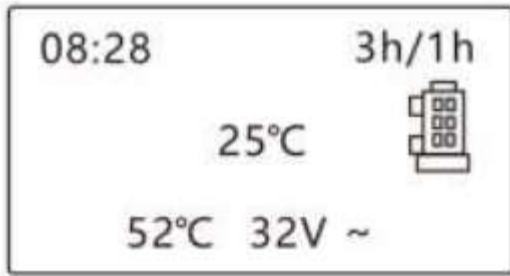

Figure 13
c. state view: press and hold restart button, original display chlorine production, now change to display controller internal temperature, operating voltage, liquid level detection, shown as figure 13. Note: the state view function is convenient for trouble shooting.